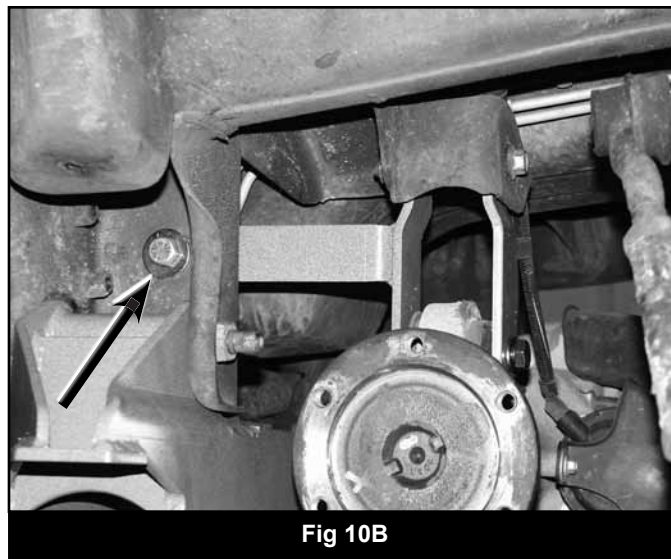

Fig 9B
28. Swing the bump stop extension up to the original frame bump stop location. Position the bump stop extension so it is flat against the original and mark the mount hole to be drilled (Fig 9B). Swing the bump stop down and drill a 5/16" hole at the mark. Reposition the bump stop and attach with the provided 3/8" x 1-1/4" self-tapping bolt. Use Loctite on the 3/8" bolt and torque to 20 ft-lbs. Torque 7/16" hardware at the crossmember to 45 ft-lbs.